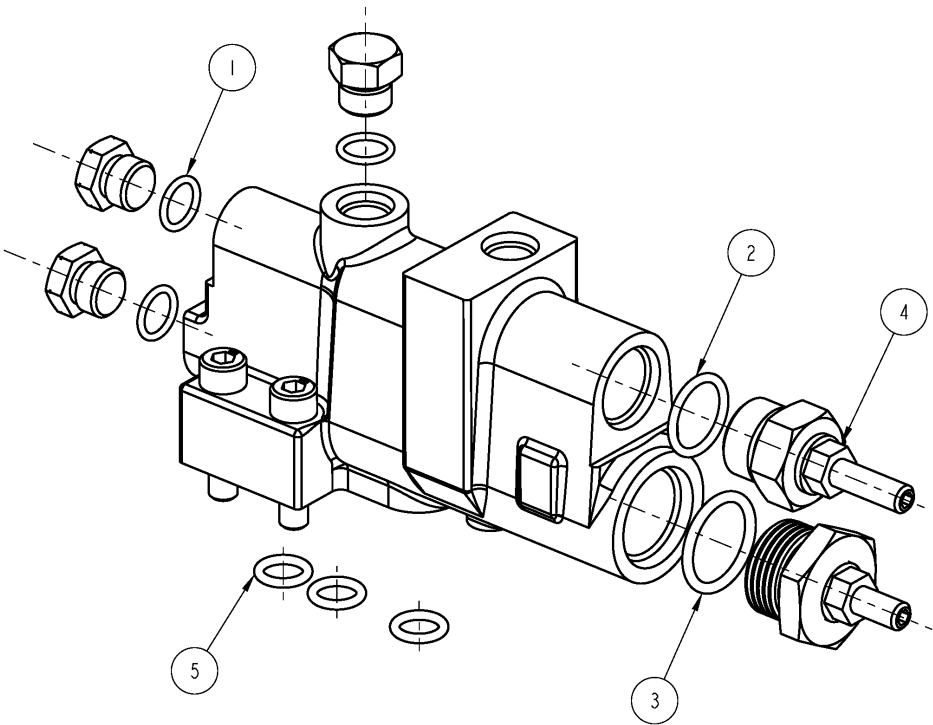

Figure 23
1. Remove the four screws (Figure 23, ②78) that fix the compensator housing to the end cover.
2. Remove the compensator and take out the three O-rings (Figure 23, ③85).
10. Install three O-rings (Figure 23, ③85).
11. Use four screws (Figure 23, ③85) to fasten the compensator housing to the end cover. Tighten the screws with a torque of 31-37 Nm. When tightening, do it in a crisscross pattern and retighten the first screw.